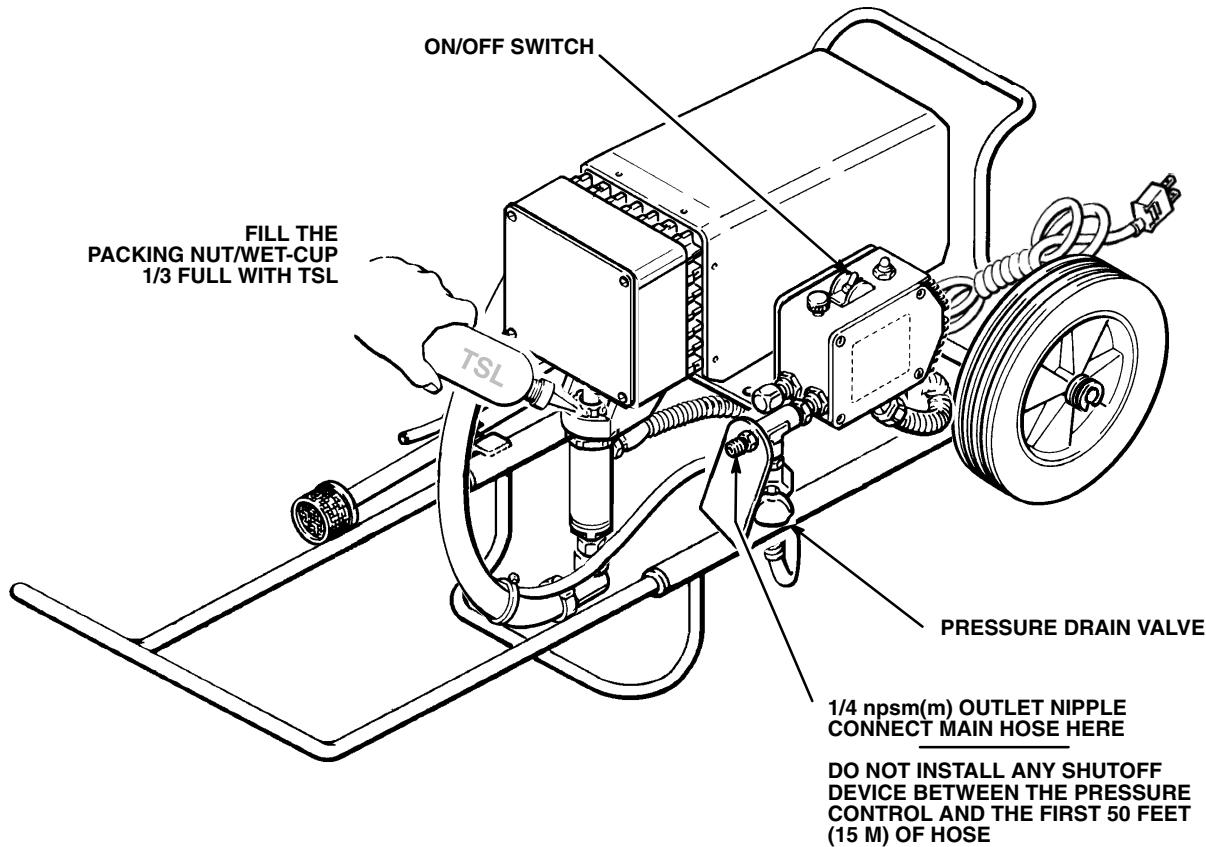

Fig 8-1
1. Connect Hose and Gun. See Fig 8-1.
3. Never install any shutoff device between the pressure control and the main hose. *See Fig 8-1.*
3. Fill Packing Nut/Wet-Cup. See Fig 8-1.